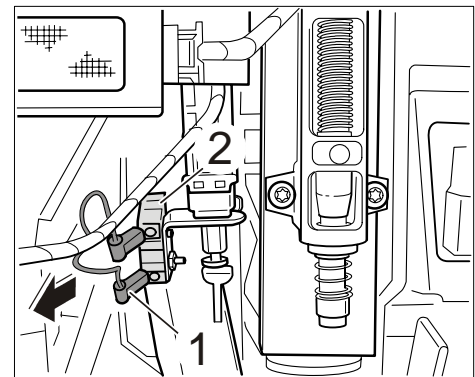

Figure 1
Clutch pedal switch shown in Figure 1 viewed from the perspective "lying in the driver's footwell under the dashboard, looking up".
- 3.1 Carefully pull both connectors ⇒ *Figure 1 -1-* off the clutch pedal switch ⇒ *Figure 1 -2-* (⇒ *Figure 1 -arrow-*).